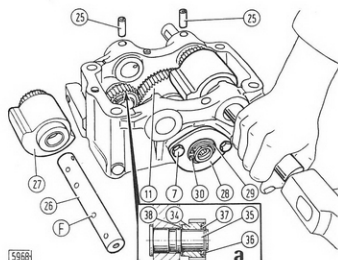
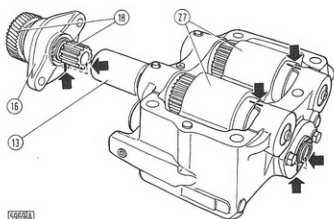

Fig. 34 - Withdrawing Flyweight Carriers
Fig. 35 - Timing the Dynamic Balancer
- Withdraw spring pins (25, Fig. 34) and weight carriers using a drift.
- Remove flange retaining screws (7), snap ring (30) and flyweight drive gear (30).
- Remove snap ring (36) and idler gear (34).
On refitting the parts, make sure that weight drive gear (11, Fig. 34) and weights (27) are positioned so that all reference marks are lined up, as arrowed in Fig. 35.
- Idler gear (34, Fig. 34) should be positioned with the longer end oriented towards the case wall.
- Split pin holes in weight carriers (26) should be aligned with those in the case.